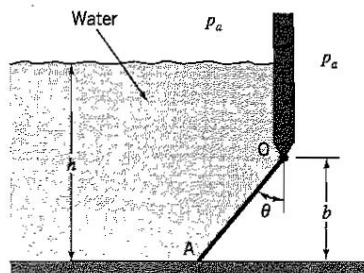

Figure P2.36
2.36 A gate of constant width W is hinged at a frictionless hinge located at point O and rests on the bottom of the dam at the point A , as shown in Figure P2.36. Find the magnitude and direction of the force exerted at the point A due to the water pressure acting on the gate.